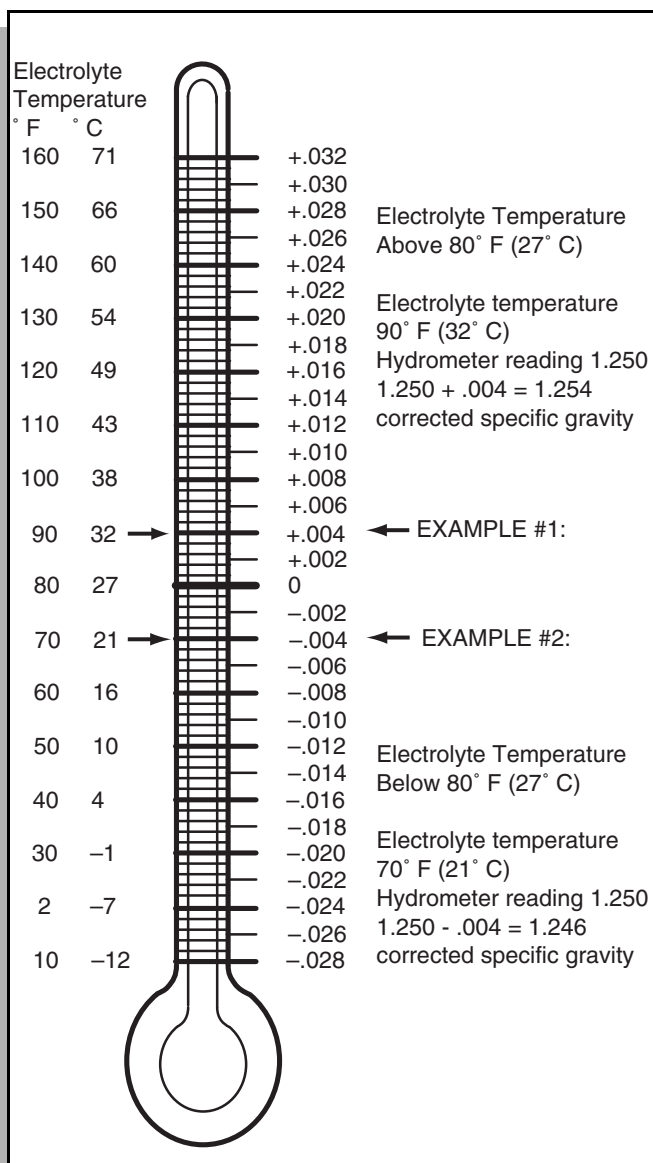

Fig. 22 Hydrometer Temperature Correction
4. Add or subtract four points (.004) to the reading for every 10° F (6°C) the electrolyte temperature is above or below 80° F (27° C). Adjust the reading to conform with the electrolyte temperature, e.g., if the reading indicates a specific gravity of 1.250 and the electrolyte temperature is 90° F (32° C), **add** four points (.004) to the 1.250 which gives a corrected reading of 1.254. Similarly if the temperature was 70° F (21° C), **subtract** four points (.004) from the 1.250 to give a corrected reading of 1.246 (Ref Fig. 22 on page 20).